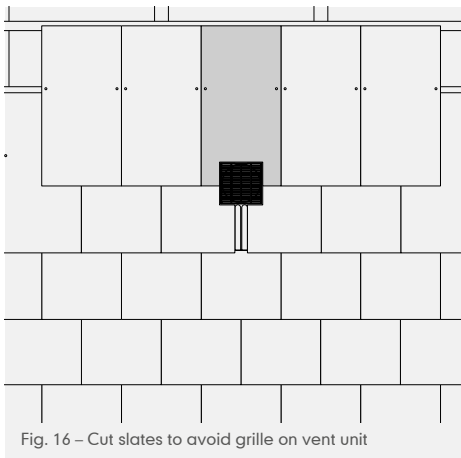

Fig. 16 – Cut slates to avoid grille on vent unit
- 6 Lay the next course of slates, cutting the slate directly above, to neatly abut the ventilator grille as required. Inspect the junction, security of the ventilating unit and adjacent slating before laying further courses. (Figs. 16 and 17). Continue slating in the normal manner.